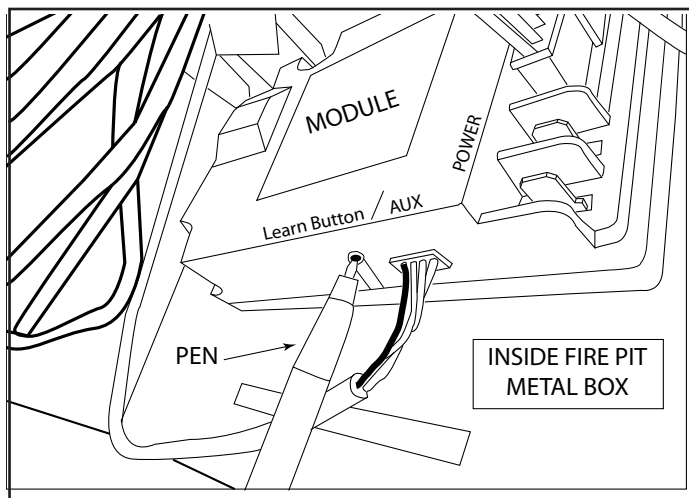

Fig. 19 Learn button location
3. Once the Learn button is located, press and release the button once. You will hear a beep indicating that the module is ready to receive a transmitter code (See Fig. 19)
Fire Pit Won't Light	<ol style="list-style-type: none"> 1. Bleed gas line. 2. Ensure all gas lines are turned ON. 3. Ensure there is not too much media over top the burner, it can inhibit the gas flow. Too little or no media can also contribute to non-lighting. 4. Check alignment of thermocouple (TC) over rainshield on page 17, Fig. 19. Adjust if needed. 5. Check batteries in battery pack. Minimum total voltage to operate should be 5.3 volts.